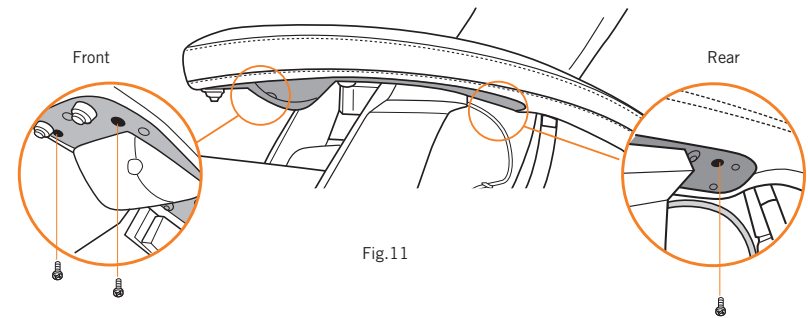

Fig.11
7. While pressing down on the armrest cap, secure it using the provided Phillips-head screwdriver and three screws (Fig.11).